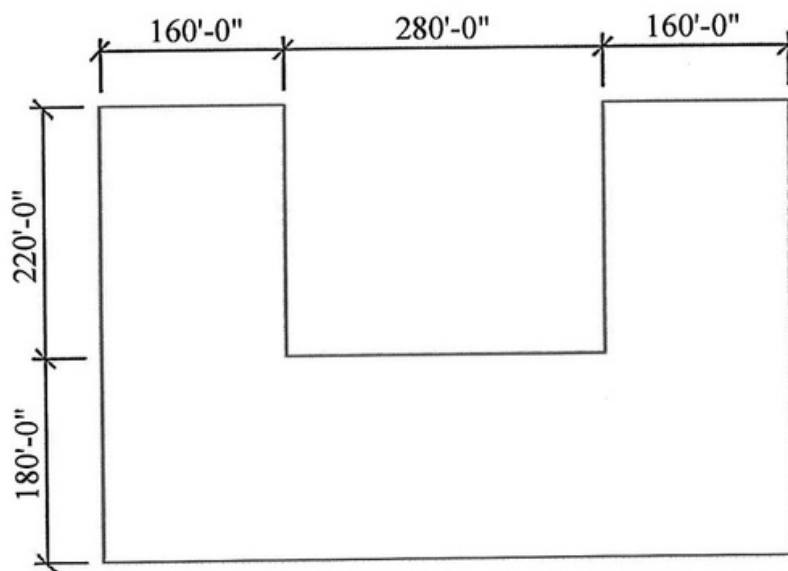

Figure 9
10. **Figure 9** shows a concrete floor area to be sand-filled. A two feet (2'-0") thick layer of sand is required beneath the floor area. Calculate the total cubic yards of sand required using the formula in **Table 4** for calculating cubic yards.